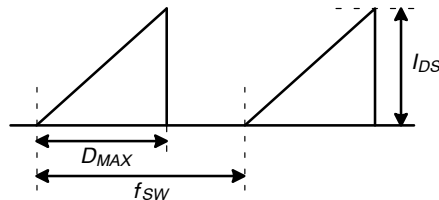

Figure 4. Repetitive Peak Switching Current
6. Repetitive peak switching current when the inductive load is assumed: Limited by maximum duty (DMAX = 0.75) and junction temperature (see Figure 4).